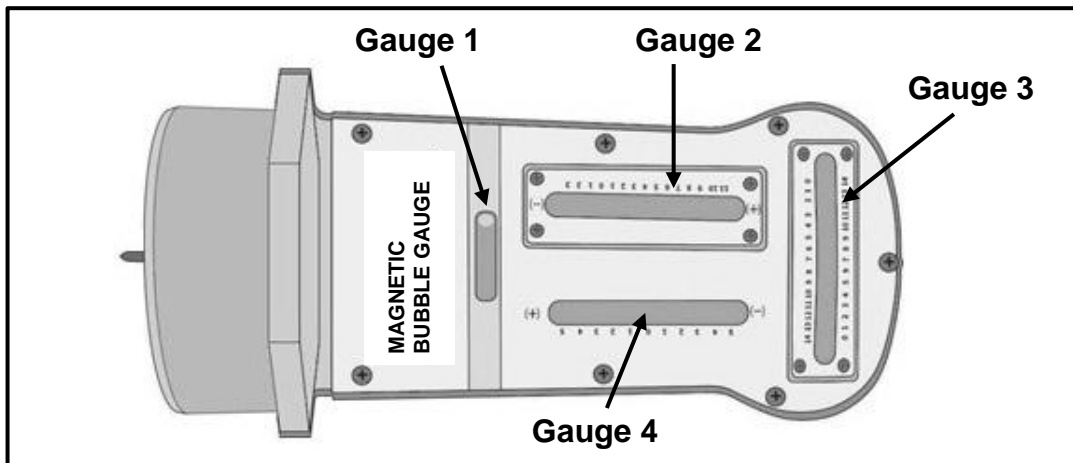

FIGURE 5.8
- 5.8 FIGURE 5.8 below shows a bubble gauge. What is measured by gauges 1 to 4? (4)